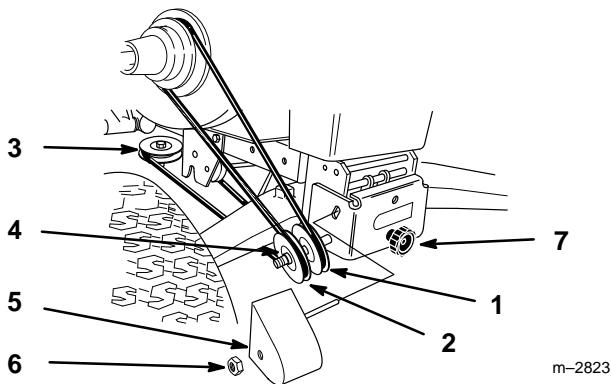

Figure 33
7. Route belt around V and flat pulleys and loop over center mower spindle, top pulley.(Fig.33).
8. Check that spacer is on shaft and install belt cover with rod in hole. Secure with locknut (Fig.33).
9. Turn knob counterclockwise to tighten belt (Fig. 33). Tighten until there is 1" (26 mm) belt movement between engine clutch and idler pulley when slight pressure is applied to the belt.